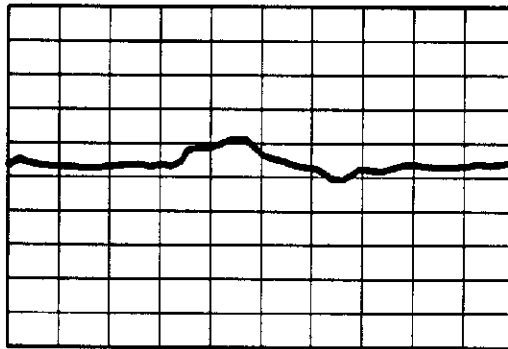

Figure 4-6. Residual FM Signal as Displayed on the Spectrum Analyzer
6. Use the RPG (rotary pulse generator) control to keep the signal centered (see Figure 4-6).